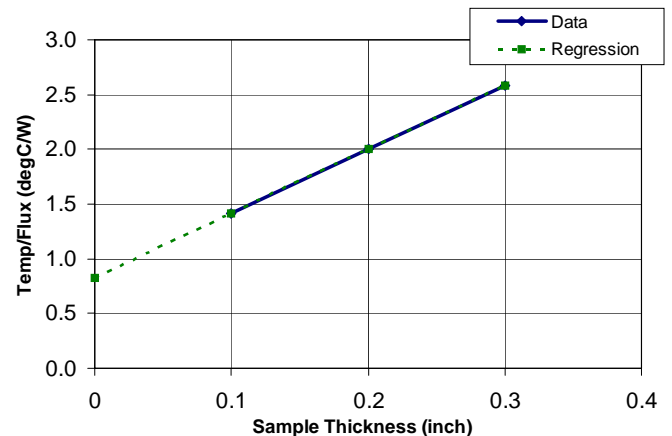

Figure 2
For a given material, the Kθ value is constant so plot of ΔT/Q versus L produces a straight line that should have a positive slope and pass through the origin. However, when measurements are made on a set of same-material test samples having the same areas but different thicknesses, a straight line with a positive slope is produced (see Figure 2) but it does not pass through the origin.
The data in Table 1 and Table 2 produced the ‘Data’ and ‘Regression’ plots shown in Figure 2. The Y-Axis intercept ( $Y_0$ ) is caused by the presence of  $BLR_{top}$  and  $BLR_{bot}$ . A simple modification of the equation (1) above produces the equation (2) below that takes care of the BLR presence –